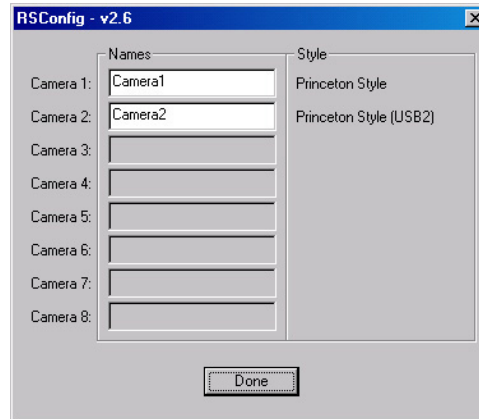

Figure 62. RSConfig dialog box: Two Camera Styles
4. Run RSConfig.exe (accessible from the **Windows|Start|Programs|PI Acton** menu). If the USB 2.0 camera is listed as Camera 2 (Princeton Style (USB2) in Figure 62), you will have to edit the PVCAM.INI file.